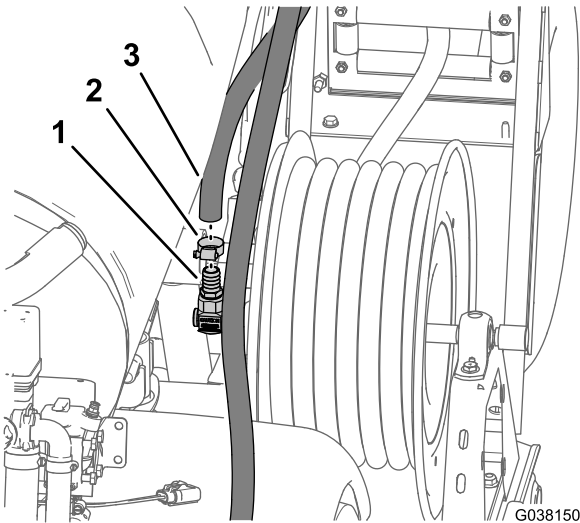

Figure 12
1. Remove the hose clamp that secures the supply hose to the barbed fitting at the inlet swivel of the reel (Figure 12).
2. Remove the supply hose from the barbed fitting (Figure 12).